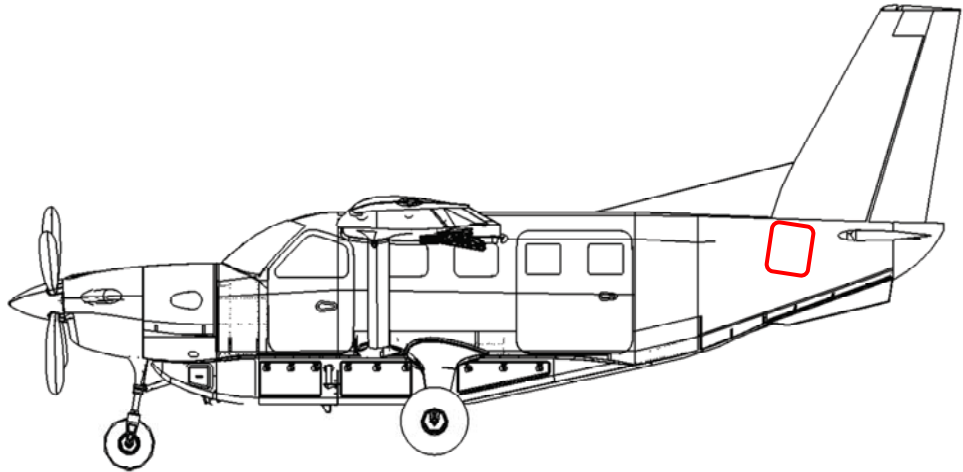
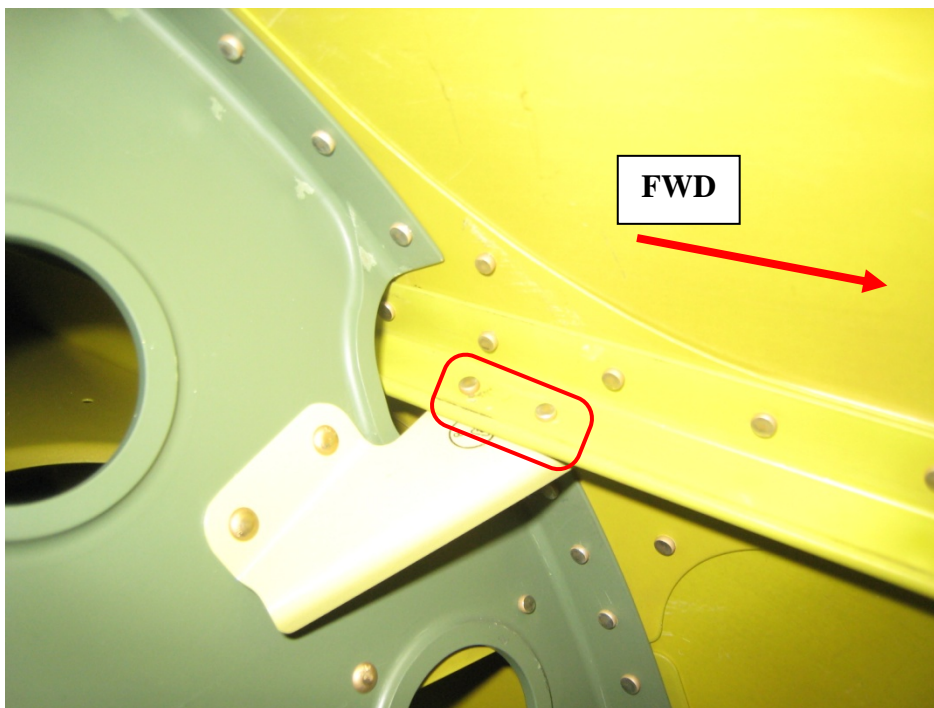

Figure 5-7: View of General Clip Location
Figure 5-9: Close-Up Showing Location of the Rivets to be Replaced
1. Inspect the rivets holding the left and right shear clips to the adjacent stringer, as shown in **Figure 5-7** through **Figure 5-9**.